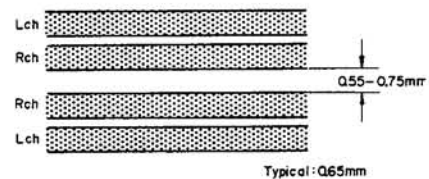

Fig. 2.17
- Immerse the recorded tape in a magnetized developing solution. In turn, check to insure that the recording head tracks across the center are separated with a distance of 0.55 to 0.75 mm (typically 0.65 mm) as illustrated in Fig. 2.17. Note: Liquid for tape magnetized development solution "MAGNA-SEE SOUND CRAFT a product of CBS RECORDS a division of Columbia Broadcasting System, Inc., Danbury, Conn. 06810 U.S.A., or equivalent". After development, clean the tape otherwise pressure rollers and heads will become dirty.